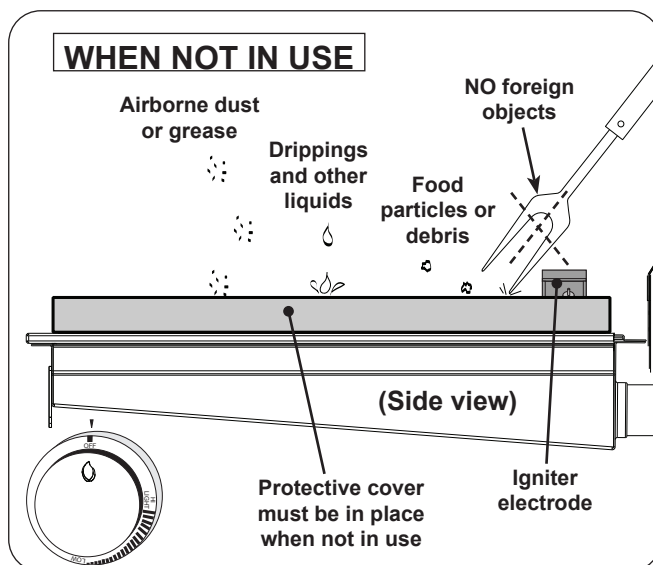

Fig. 35-2 Infrared burner - WHEN NOT IN USE
- When not in use, **always** cover the infrared burner with the stainless-steel cover. This protects the burner from drippings (from other cooking), water, airborne particles, and foreign objects (Fig. 35-2).
- Do not strike or scrape the ceramic portion of the burner as it may chip, crack, or break (Fig. 35-2).